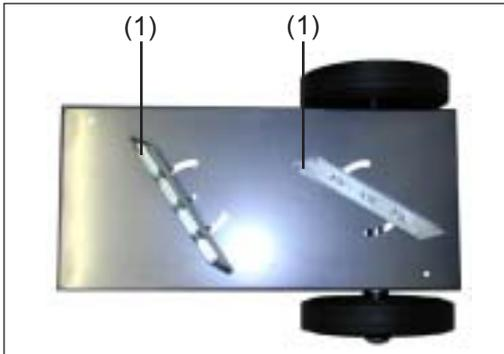

Fig. 16 Insert the catches
NOTE! When fitting the two handle plates together (1), make sure that the catches (2) on the underside of the handle plates (1) slot completely into place (Fig.16 and Fig.17)